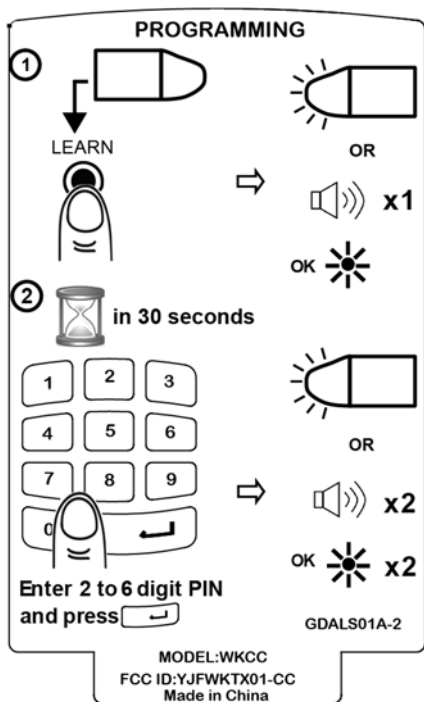

Fig.1
1. Press/Release the "LEARN" button on the rear control panel, courtesy light will glow# or "OK" LED will glow and beep\*. The unit is now ready to accept a transmitter in the next 30 seconds as shown in Fig.1.